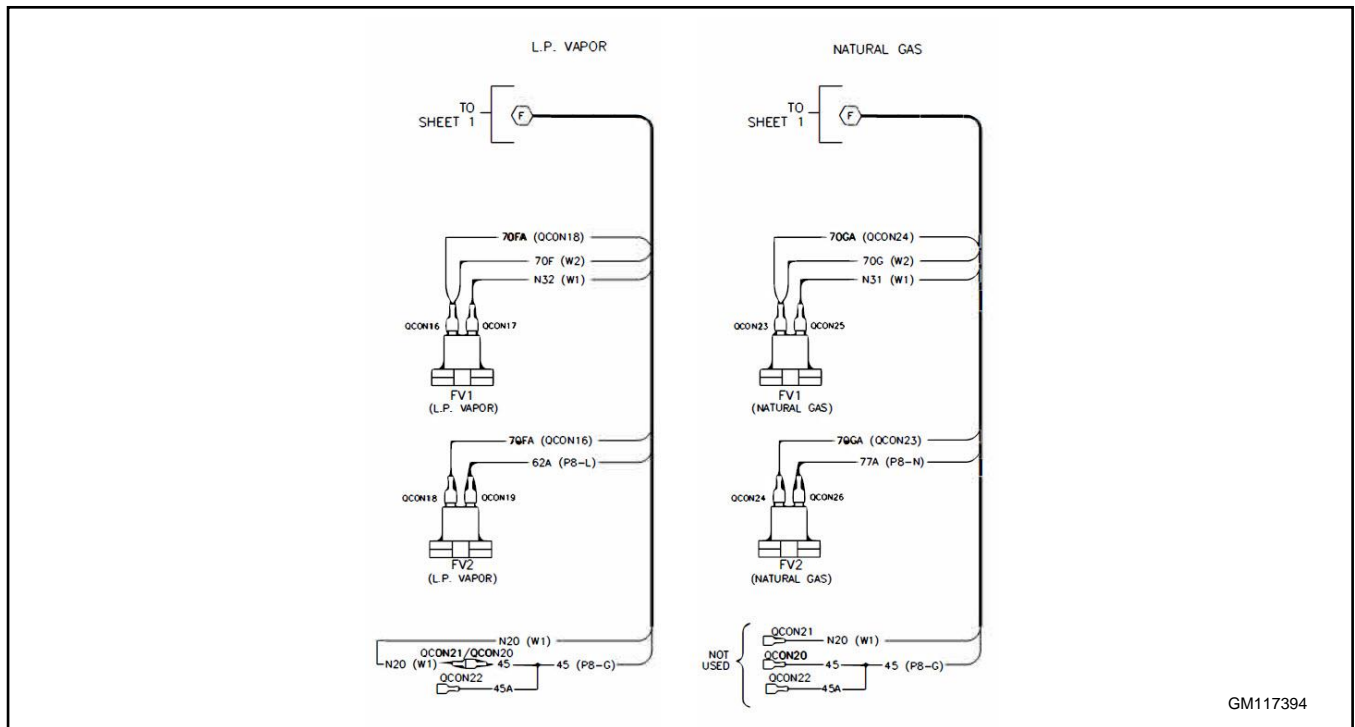

Figure 23 Fuel Conversion Connections, 24 kW built after October 2021
3. **For LPG fuel only, 24 kW built after October 2021:** See Figure 23.
3. **For 24 kW built after October 2021:** See Figure 23.